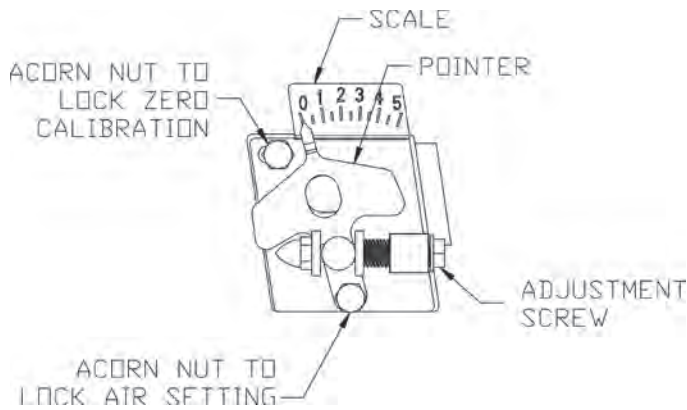

Figure 34: Head/Air Adjustment Plate Assembly
- Loosening the splined nut and lower acorn nut, and, turning the adjustment screw, either forward or, rearwards, will adjust the head/air plate. **DO NOT LOOSEN UPPER LEFT ACORN NUT**, which locks zero head/air setting. See Figure 34.
2. The plate setting number has been factory preset to obtain an initial CO₂ range of 11.0 – 11.5 % at burner start-up. Adjusting head/air plate forward (the pointer will move towards “0” scale number) reduces excess air and increases % CO₂. Adjusting head/air plate rearwards (the pointer will move towards “5” scale number) increases excess air and reduces % CO₂. See Figure 34.